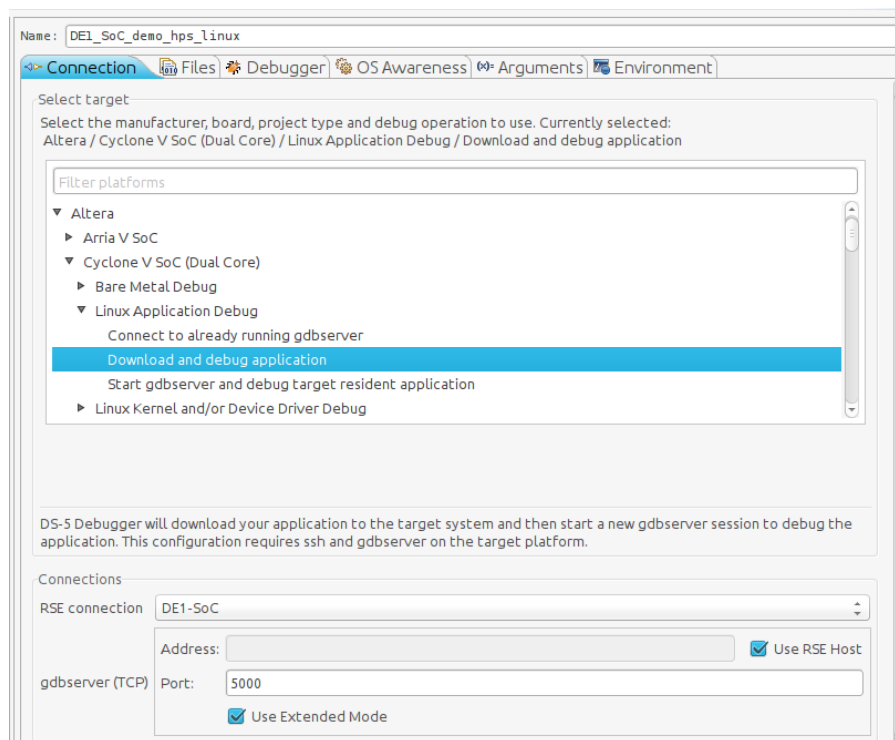

Figure 8-51. Debug Configuraton “Connection” Tab
- b. Set the "RSE connection" to "DE1-SoC". This is the remote system connection we created earlier. You should have something similar to Figure 8-51.